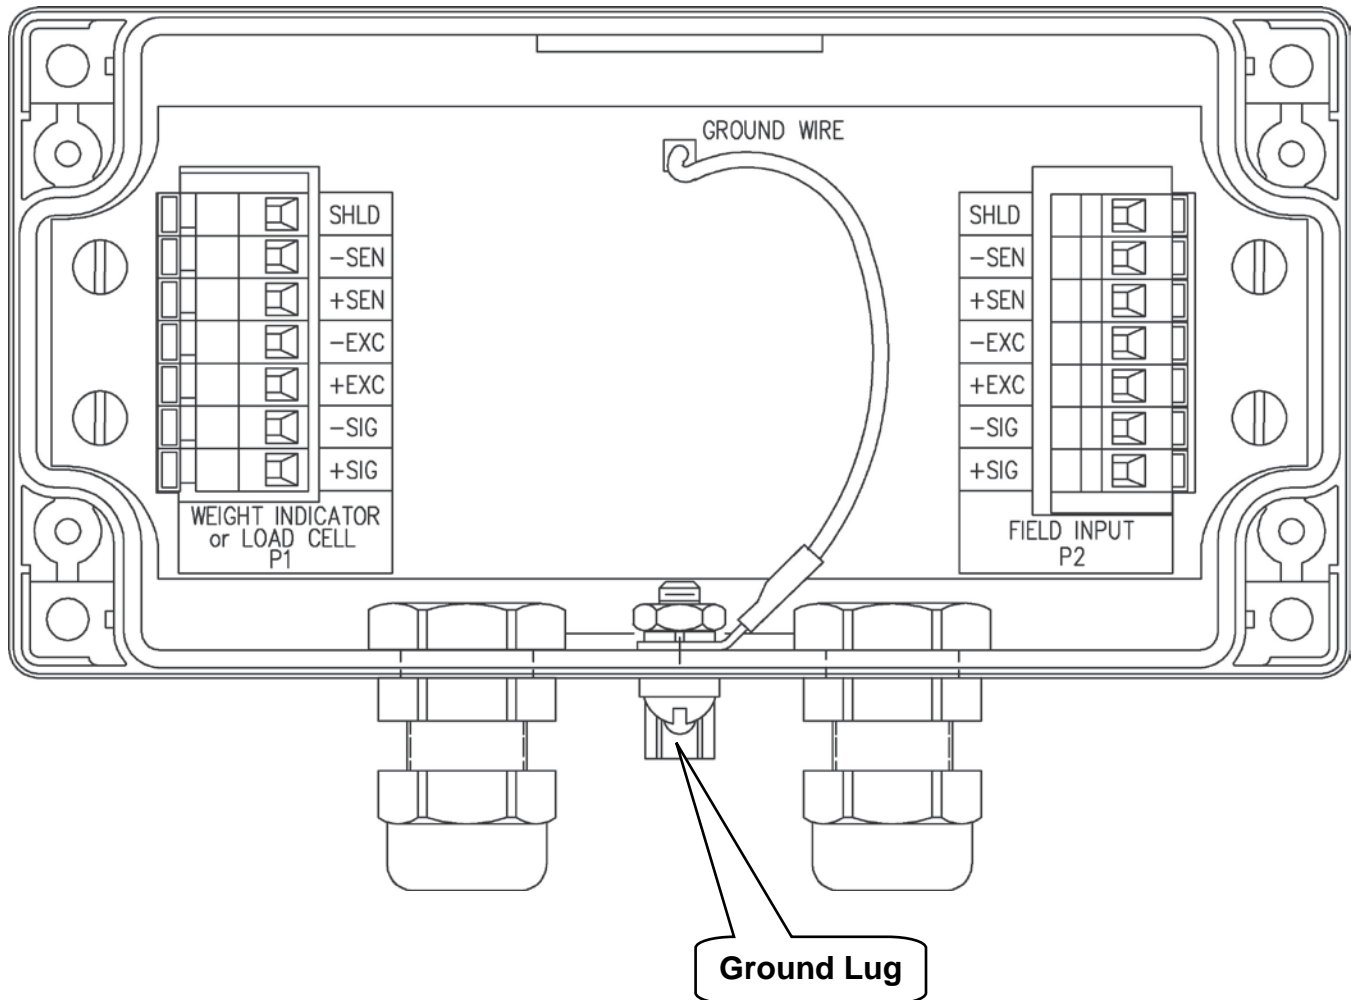

Figure No. 10 – Ground Lug Location
16. The indicator cable is terminated at the Surge Suppression box located in the front door of the Totalizer enclosure. Make sure the surge suppression box is grounded back to the indicator and the AC power ground. Failure to provide a good ground will make the surge suppression inoperative. See Figure No. 10.